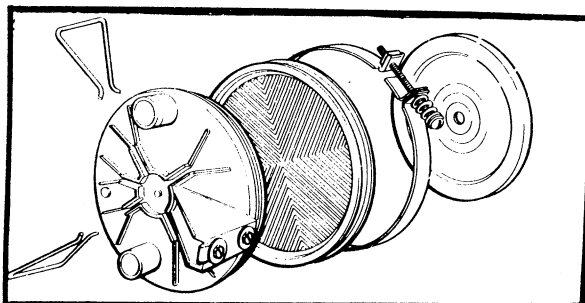

Figure 113
6. Separate parts (note sequence for re-assembly) see *Figure 113*.